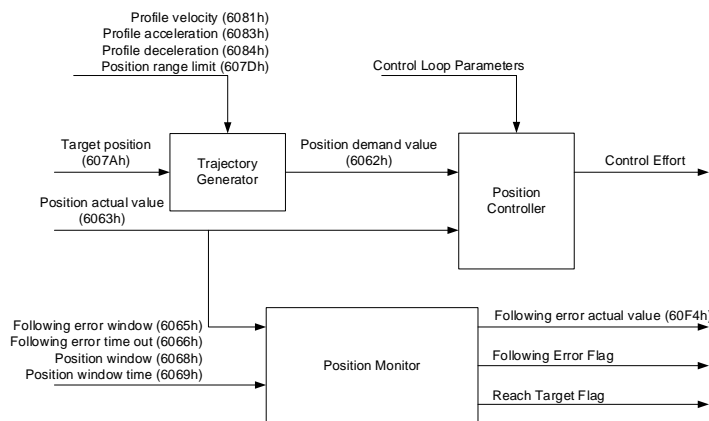

Figure 12: Profile Position Mode Block Diagram
Profile position (PP) mode accepts the user’s target position command and profile parameters. The trajectory generator automatically generates a position curve according to the profile parameters. The profile velocity, profile acceleration, and profile deceleration can be changed before a new set point is updated. Figure 12 shows the overall structure for this mode.